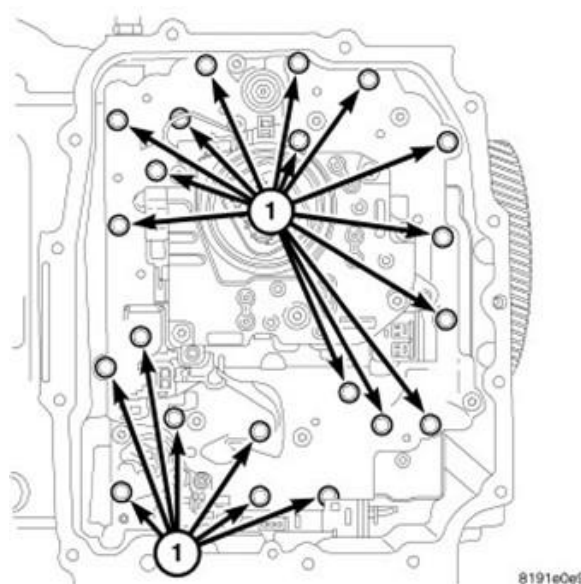

**Figure 14 – Valve Body**
24. Remove valve body bolts (Figure 14).